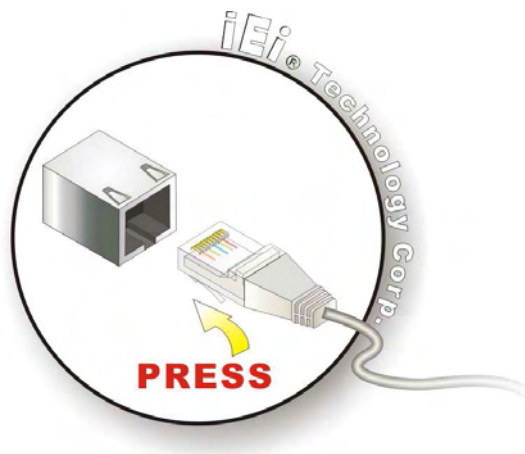

Figure 3-11: LAN Connection
- Step 3:** **Align the connectors.** Align the RJ-45 connector on the LAN cable with one of the RJ-45 connectors on the bottom panel. See Figure 3-11.